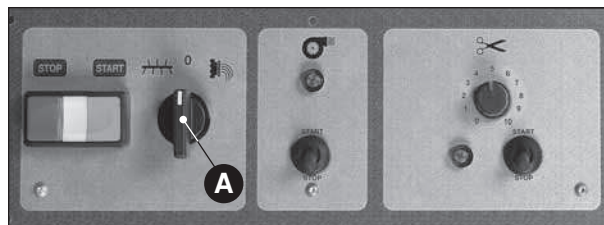

Fig. 2
- switch the selector to the “0” position (**Fig. 2 A**) and check the correct set-up of the Archimedean screw, making sure that the cylinder part is sustained by the dragging shaft;
In this case, before turning the switch (**Fig. 2 A**) **FROM KNEAD TO DRAWPLATE** you will have to add some more flour and knead a little longer. If the flour does not form a ball and is too floury, add some more water.